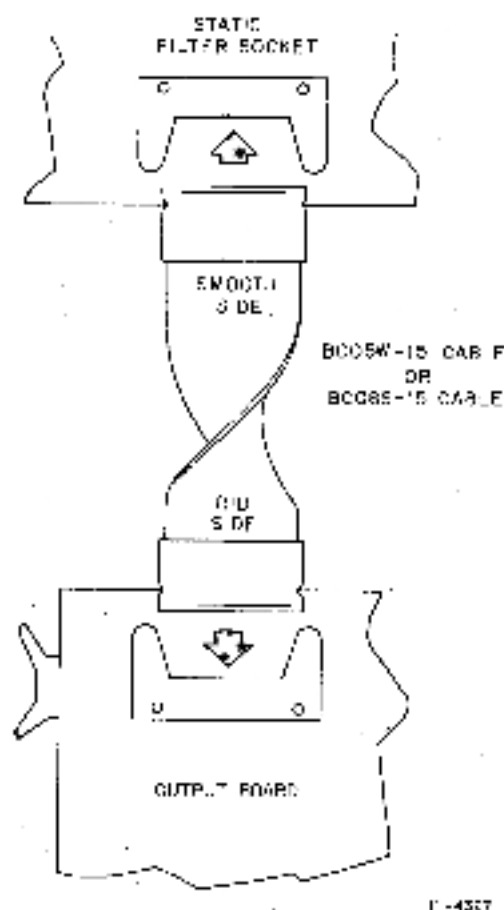

Figure 2-3 BC05W-15 and BC08S-15 Interconnection
- c. Remove the BC05W-15 cable(s) from the H3271 and install the cable(s) (with smooth side up) to the static filter socket(s) on the back of the H317-E distribution panel. Refer to D-UA-DZ11-0-0 and Figure 2-3.
7. Replace the H327 test connector with the BC05W-15 cable and observe the same caution as in step 6. Install the other end of the cable at the static filter socket on the back of the distribution panel. Refer to Figure 2-3 and D-UA-DZ11-0-0.
- a. Connect the other end of the BC08S cable to the static filter on the back of the distribution panel (H317-F) with smooth side up. Refer to Figure 2-3 and D-UA-DZ11-0-11.
8. Remove the BC08S cable from the H3190 test connector and plug it into the static filter socket on the back of the distribution panel (H317-F) with smooth side up. Refer to Figure 2-3 and D-UA-DZ11-0-0.